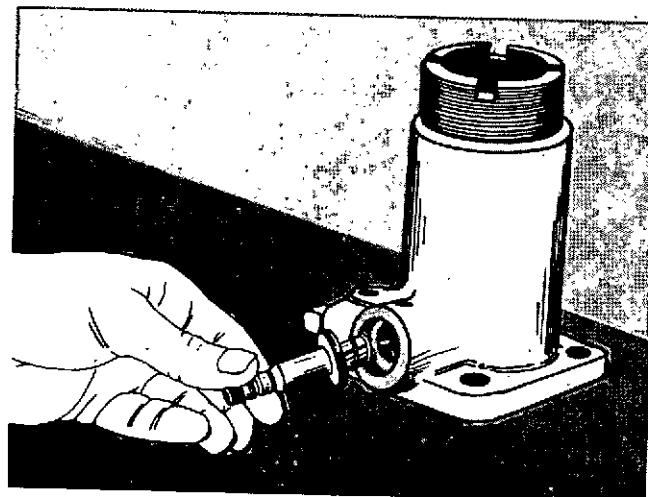
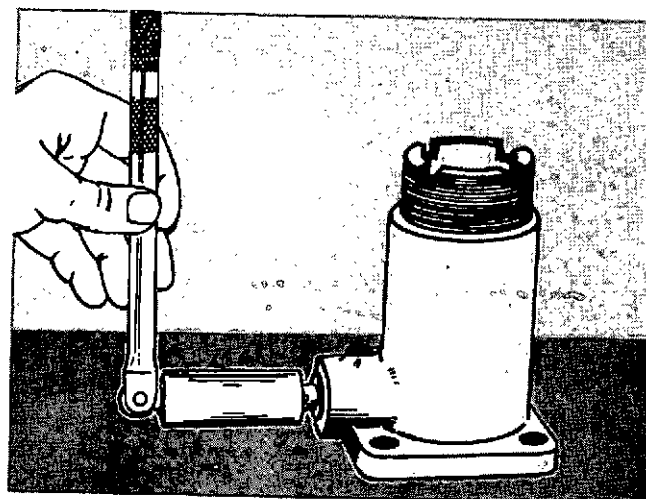

Fig. 4-37. Install The Plunger And Spring Assembly.
Fig. 4-38. Tighten The Plunger And Spring Assembly.
21. Install the plunger and spring into the plunger bore of the solenoid stem. Install this assembly into the solenoid valve bore, Fig. 4-37. Use the Part No. 3376023 Installation Tool to tighten the stem to 10 to 15 ft.-lbs. [14 to 20 N•m] torque, Fig. 4-38.